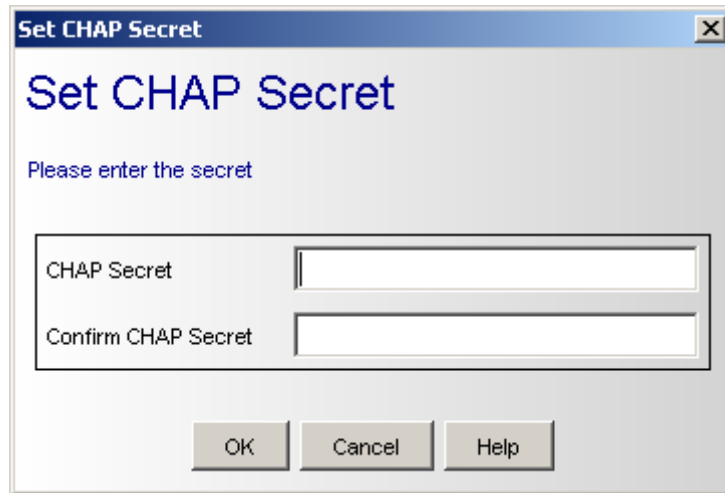

Figure 5-35. Set CHAP Secret Dialog Box
2. On the **iSCSI** menu, click **Change CHAP Secret**. The Set CHAP Secret dialog box appears (see Figure 5-35).